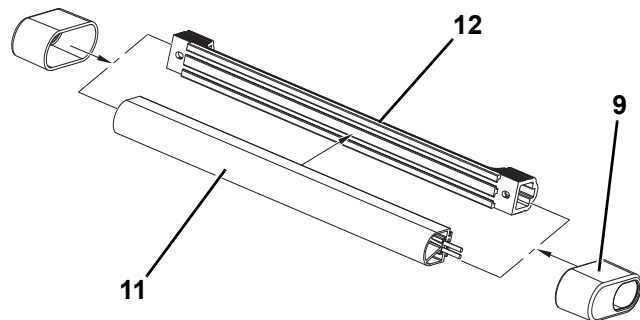

Figure 4-55.
2. Align and attach Platform Sensor Mount (12) onto the SkyGuard Switch (11) as shown in Figure 4-55.
3. Attach Platform Sensor Covers (9) to SkyGuard switch assembly at both ends. See Figure 4-55.